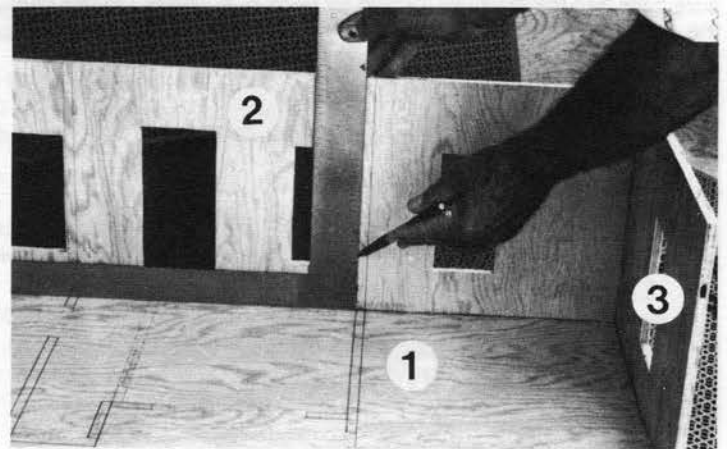

Fig. 3
Step 2: Using your square, mark vertical placement on all first floor walls and then install wall part 3, using step 1 procedures (FIGURE 3).